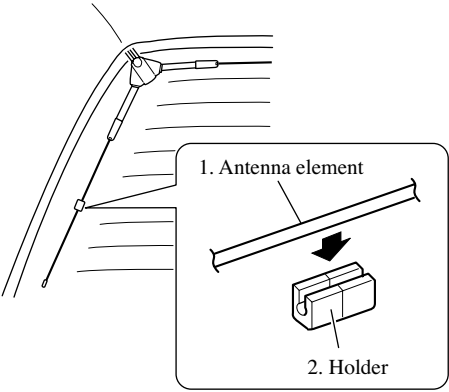

Fig. 10
4. Clipping holders onto the antenna element. (Fig. 10)